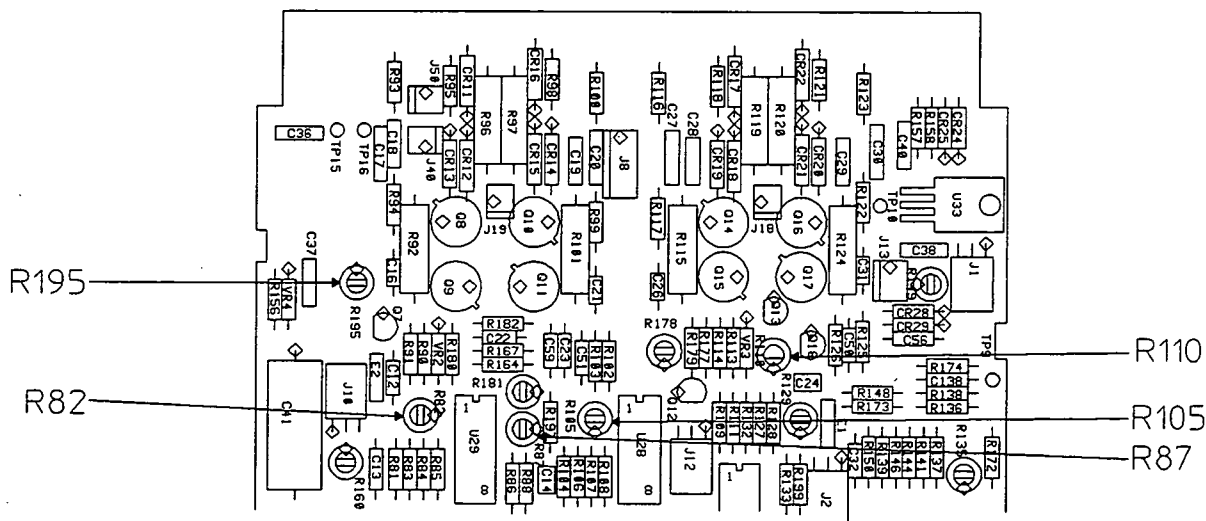

Figure 5-15. A81 Adjustment Locations
1. Refer to figure 5-15 for adjustment locations.